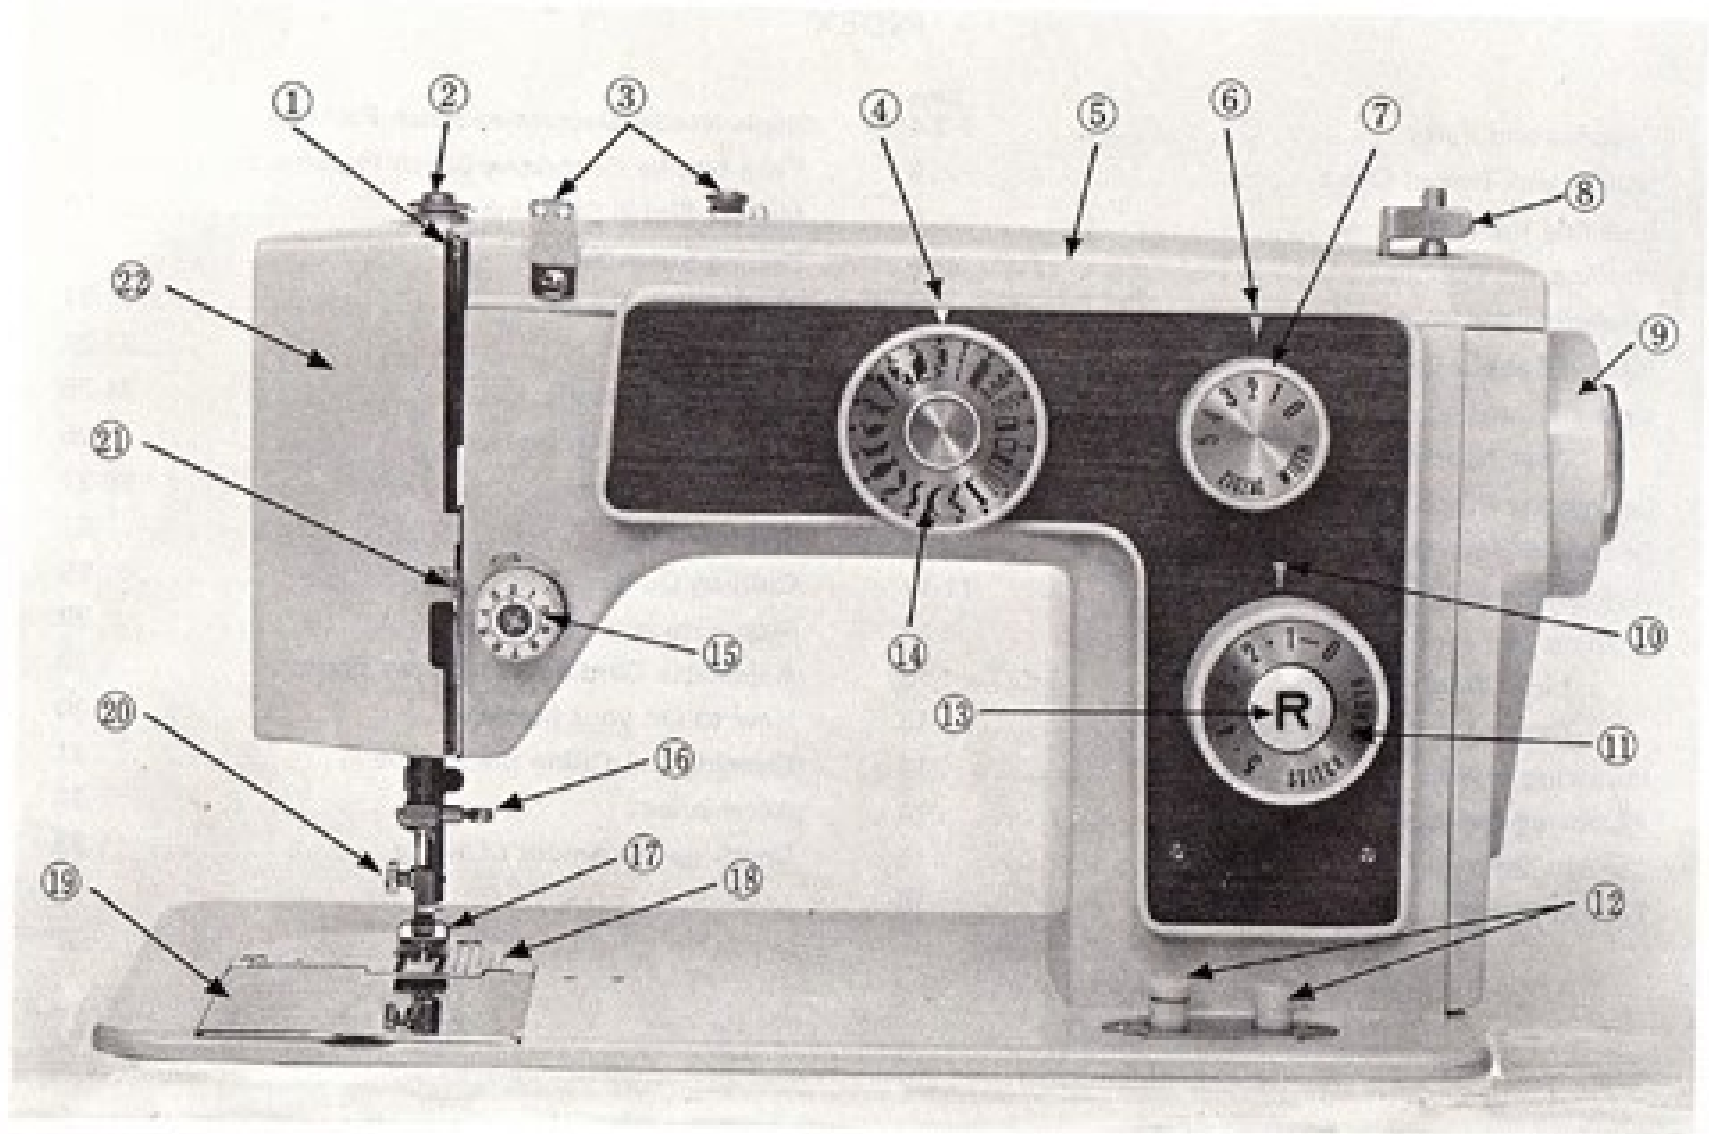
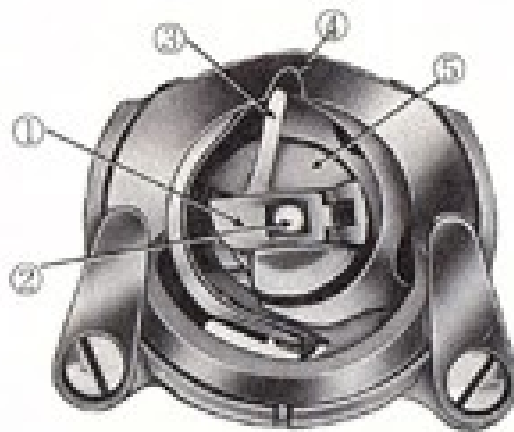

Fig. 1
Fig.10
Open hinged cover plate in front of the needle. (See ③ , Fig.1) See Fig.10. Hold the bobbin case latch, ①, between the thumb and forefinger of the left hand, with at least three inches of thread running from the top of the bobbin case to the right. Insert and center the bobbin case on the stud of the shuttle hook ②. Be sure the bobbin case finger, ③, is opposite the shuttle race notch, ④. Press the bobbin case ⑤ into the shuttle as far as possible until latch catches on the center post of the shuttle. THEN release the bobbin case latch, ①. Press bobbin case again after latch has been released to make sure the bobbin case is locked securely in place. Close the cover plate.
The length of the stitch is regulated by the stitch length control dial (ⓐ, Fig. 1) Near 0 is the shortest stitch and 5 is the longest, but the control may be set at any spot between marking for a variety of lengths.
When you wish to sew backward to tie the threads at the beginning or end of a seam, press in the push button (ⓑ, Fig. 1) as far as it will go. The machine will sew backward as long as the button is held in.